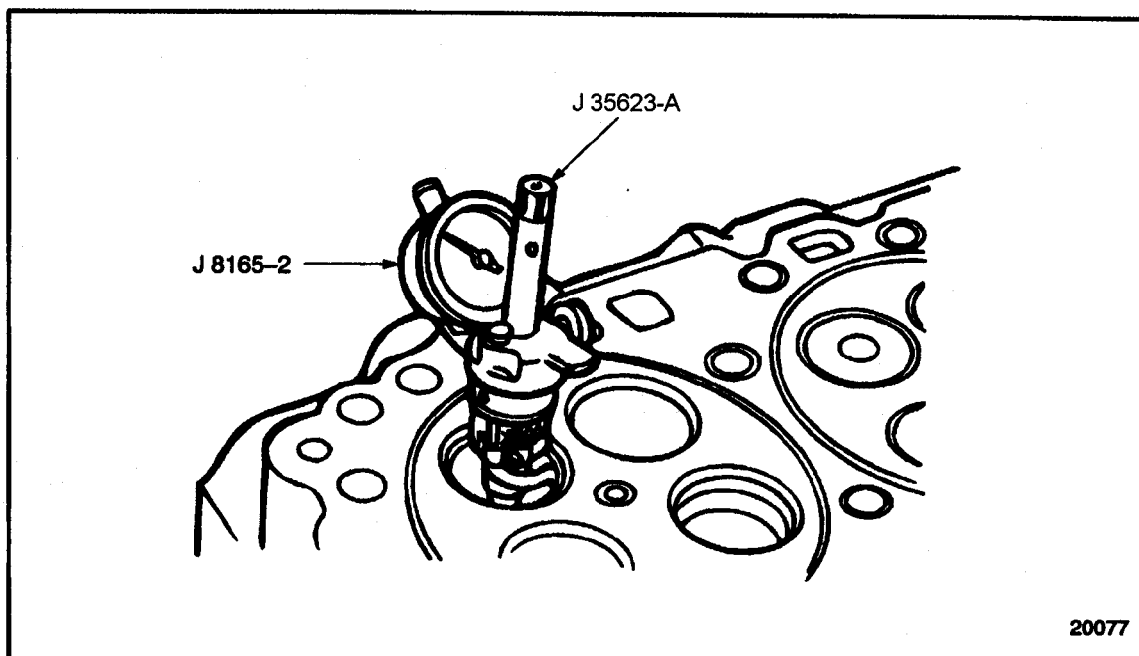

Figure 1-79 Check Valve Seat Concentricity
6. Check the concentricity of valve seat with the valve guide using dial indicator, J 8165-2, and pilot, J 35623-A. See Figure 1-79.